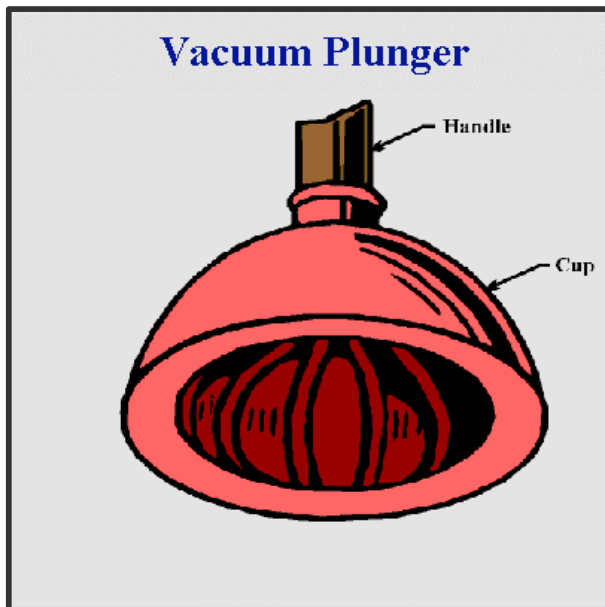

Figure 1. Vacuum plunger
- **Vacuum plungers.** When a sink, lavatory, or similar flat-surface drain is stopped up completely, a mechanical method may be used to remove the obstruction. The vacuum plunger consists of a rubber suction cup (about 5-inches in diameter) fastened to a wooden handle. (Figure 1)